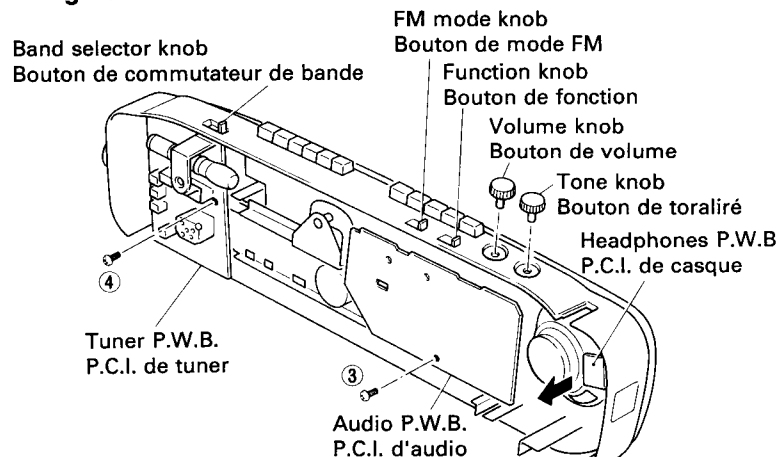

Fig. 3
3. Audio P.W.B (Fig. 3)
4. Tuner P.W.B. (Fig. 3)
5. Headphones P.W.B. (Fig. 3)
3. P.C.I. d'audio (Fig. 3)
4. P.C.I. de tuner (Fig. 3)
5. P.C.I. de casque (Fig. 3)